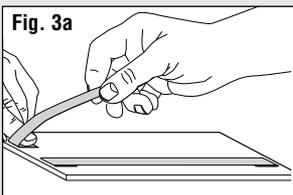
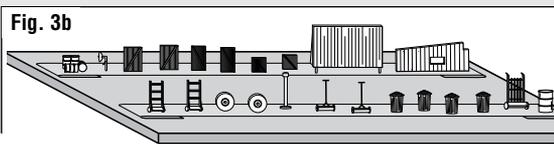

Fig. 3a
Fig. 3b
**TIP:** Taping Details (unexposed side down) to loops of masking tape on a piece of cardboard makes priming and painting easier. (**Fig. 3a** and **Fig. 3b**)